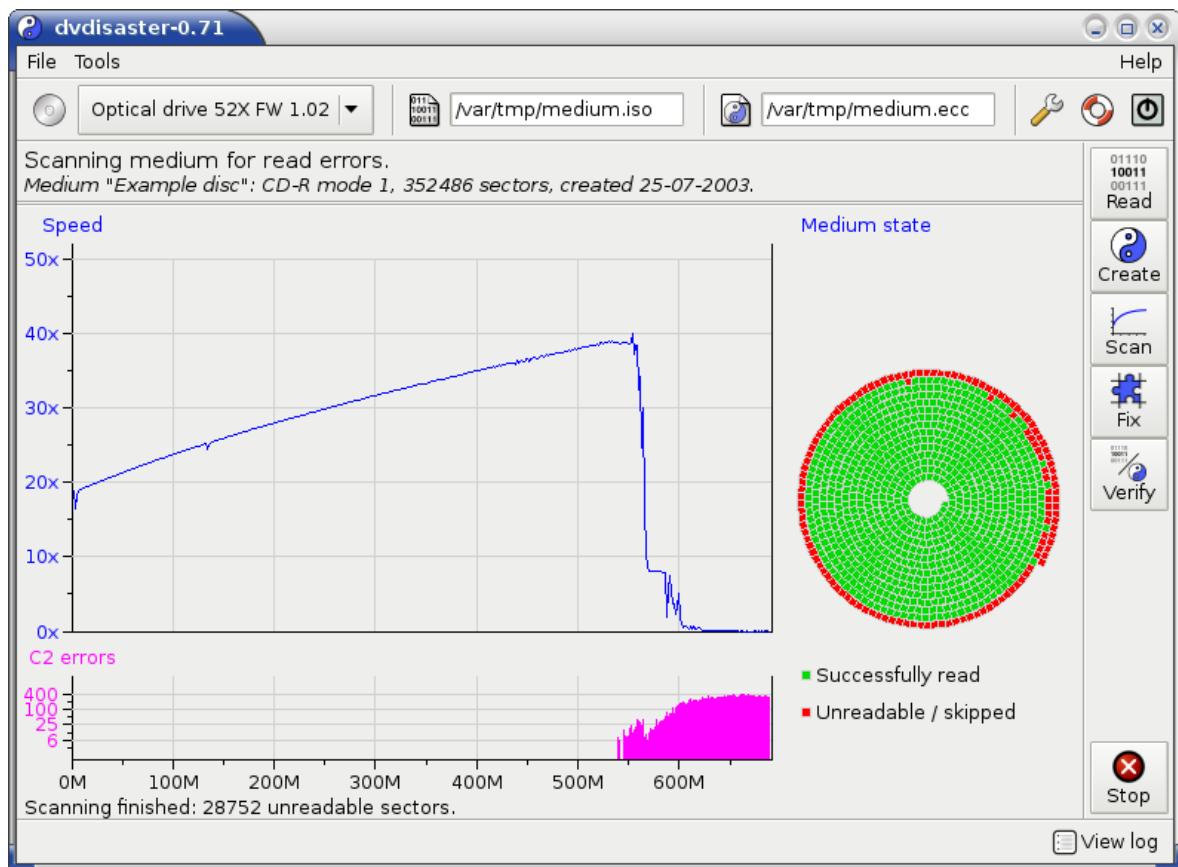

Figure 8: Scanning the medium.
**Overview.** dvdaster provides several information about the scanning results (see fig. 8):